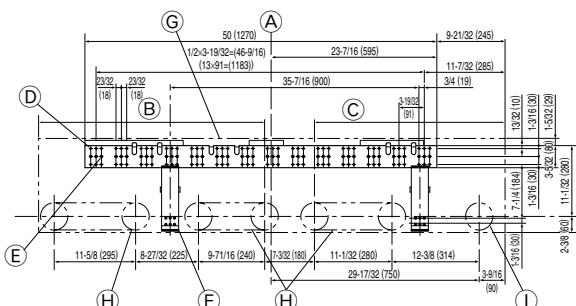

Fig. 3-6
- ⑧ Insert scale.
- ⑨ Hole centre
- ⑩ Align the scale with the line.
■ PKFY-P18/P24/P30NFMU-E (Fig. 3-6)